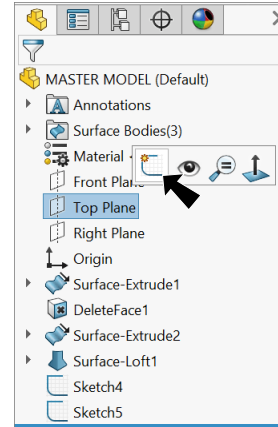

Fig. 30
Step 1. Click **Top Plane** in the Feature Manager and click **Sketch** on the context toolbar, **Fig. 30**.